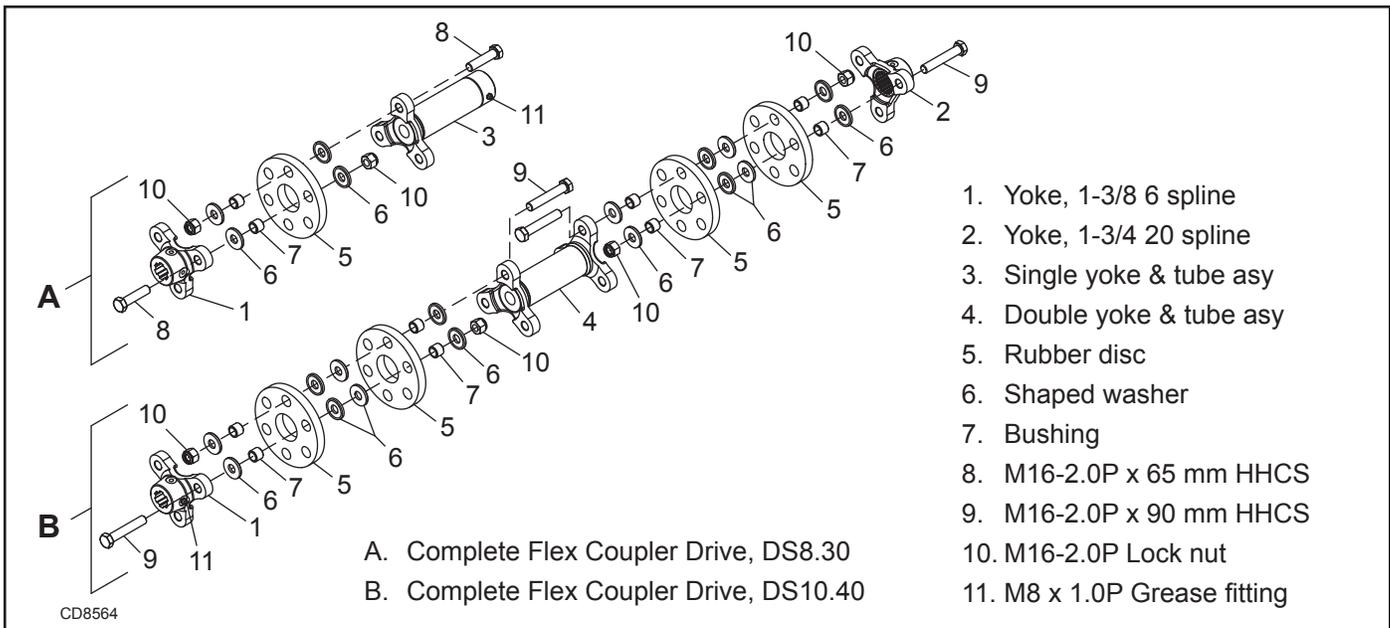

Figure 15. Flexible Coupler
To replace the disks, remove hardware items (6, 7, 8 or 9 and 10). Remove sleeves (7) from old disk and install in new disk. Reassemble and torque bolts to 85 lbs-ft. See Figure 15. Take special care not to rotate gearbox shaft and throw blades out of time. If rubber disks have failed and blades are hitting, you will need to re-time the blades per instructions on page 36.